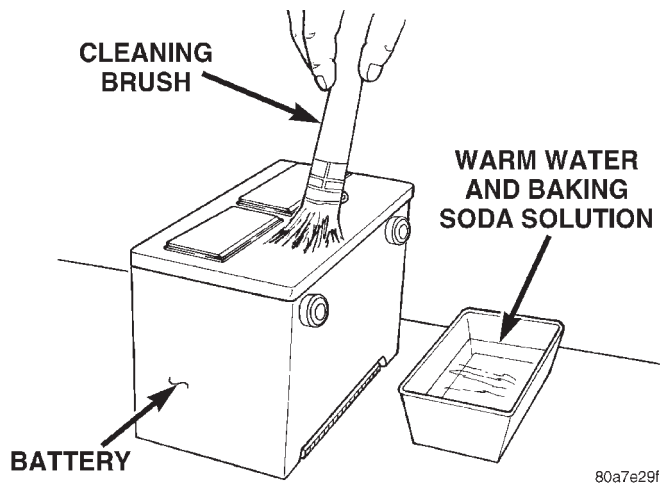

Fig. 14 Cleaning Battery
(1) Clean battery with a solution of warm water and baking soda. Apply solution with a bristle brush and allow to soak until acid deposits loosen (Fig. 14). Rinse with clear water and blot dry with paper toweling. Dispose of toweling in a safe manner. Refer to the WARNINGS on top of battery.